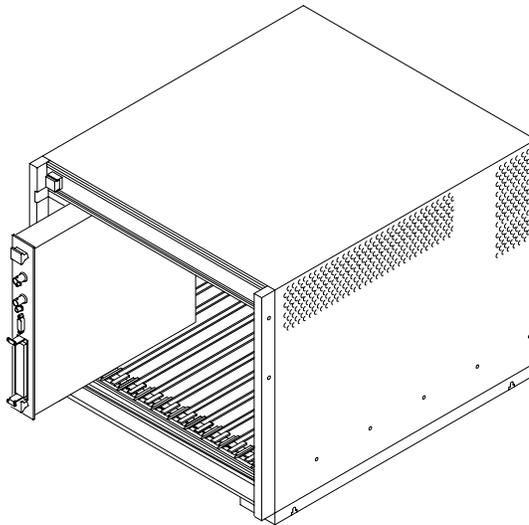

Figure 1-3: Module Installation
4. Insert the module into one of the instrument slots of the mainframe (see Figure 1-3).